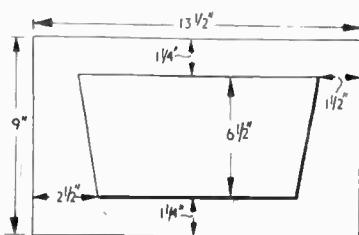

Fig. 4—Dimensions of the cabinet
This is very straightforward, being made from  $\frac{3}{8}$  in. thick wood to the dimensions given in Fig. 4, which is a front view. When the receiver is completed and adjusted, it is pushed in
top board is level with the press. Place the plough over in the position shown in Fig. 4 (F) and move it forwards and back, tightening the bolt a little each time, until the edge of the volume is cut through. To get a square edge it is necessary to adjust the knife exactly at right angles to the side of the plough, and to keep it sharp. If the nut comes to the end of the screwed portion of the bolt before the cut is complete, turn it back-